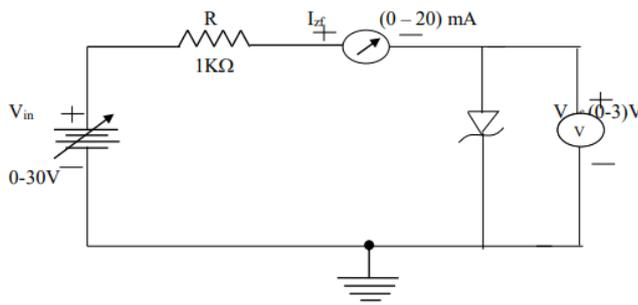

Fig. 1: Forward Bias Condition
1. Connect the circuit as per the circuit diagram figure 1.